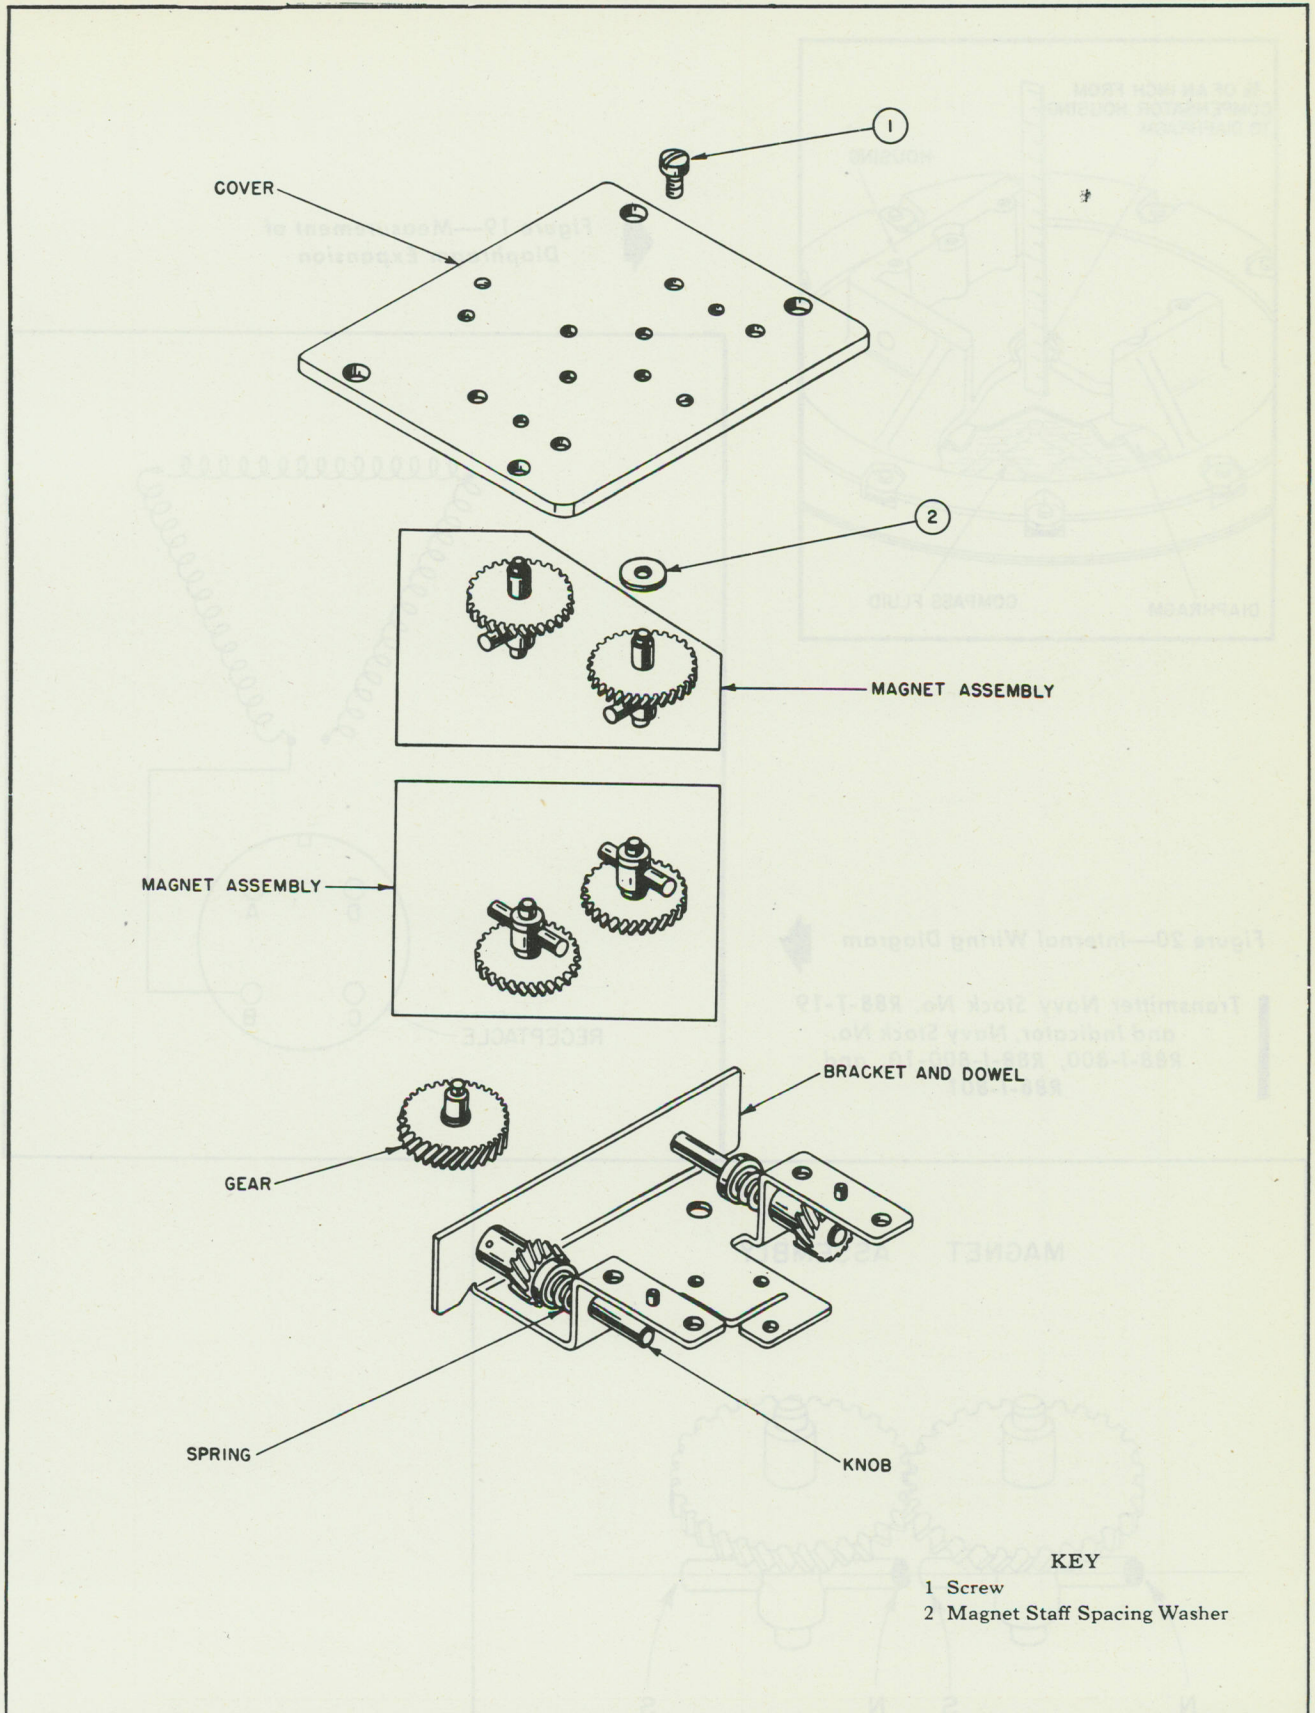

Figure 18—Exploded View Drawing—Compensator Assembly—Transmitter—Type AN 5730-3
(5) REASSEMBLY OF COMPENSATOR ASSEMBLY. (See figure 18.)
(e) Align the holes in the compensator cover with the magnet staffs, idler gear staff, and dowels. Press the compensator cover in place on the bracket and secure with the four screws (1, figure 18).